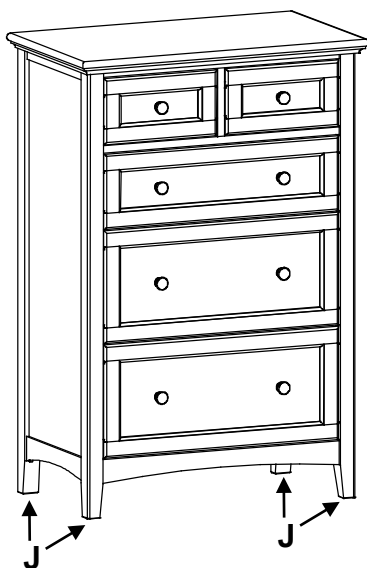

Fig. 2
2. Place the chest at its final destination. Rotate the Small Adjustable Glides (J) on the bottoms of the legs until the unit is level. See Figure 2.